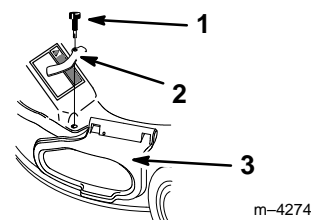

Figure 35
11. Secure the front, right corner of the discharge tunnel and the side opening cover with the side cover clamp removed previously and the long knob supplied with the grass catcher (Fig. 35)